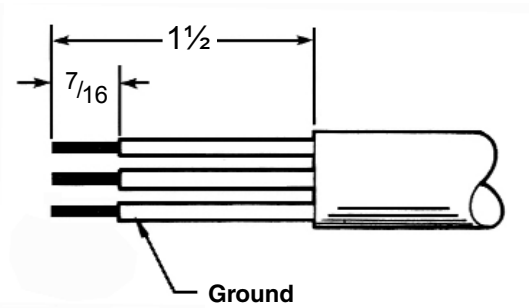

Figure 5
- Strip cord jacket and wire insulation according to dimensions shown in Figure 5. Be careful not to damage individual conductors or their insulation.
Make sure the cord clamps are compressing on the cord jacket. The strip dimensions in Figure 5, have been developed to make sure there is sufficient cord jacket remaining to allow the cord clamps to work properly. If the cord clamps are not clamping fully on the cord jacket, do not use. The cord should be re-stripped to the proper dimensions and re-assembled.